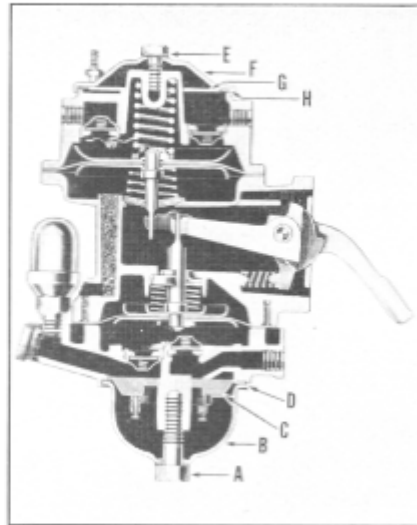

Figure 23
The **COMBINATION FUEL AND VACUUM PUMP** (Fig. 23) is provided with a screen which should be cleaned every 2000 miles by removing the lower cap screw (A) and bowl (B). Before replacing screen (C) and bowl gasket (D), carefully examine them and renew if necessary.